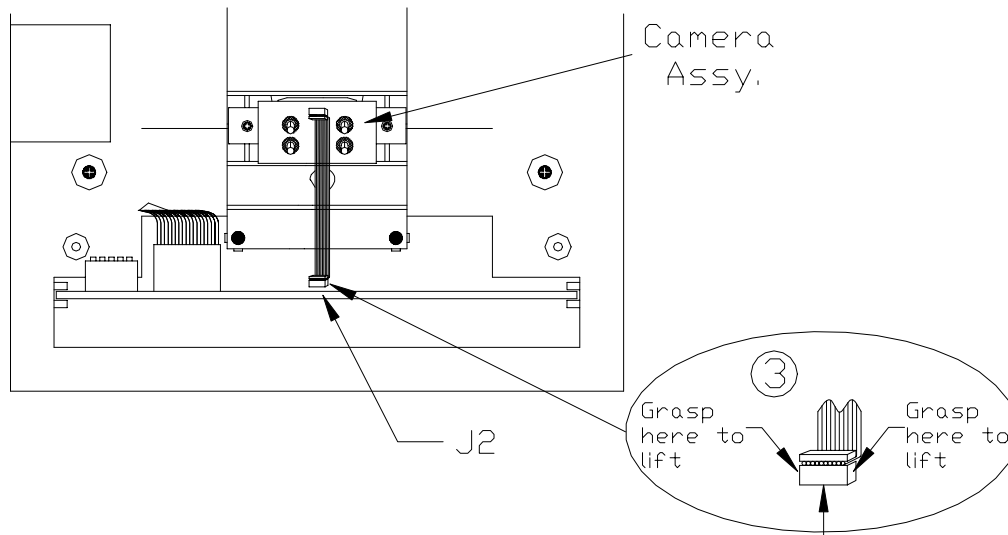

Figure 5.
9. Carefully slide the main circuit board out until the ribbon cable between the camera assembly and J2 on the main circuit board can be detached from J2. Gently pull up on the IDC connector, being careful not to pull on the ribbon cable as damage to the camera assembly may occur. Slide the main logic PCB free from the chassis. See figure 5 below.